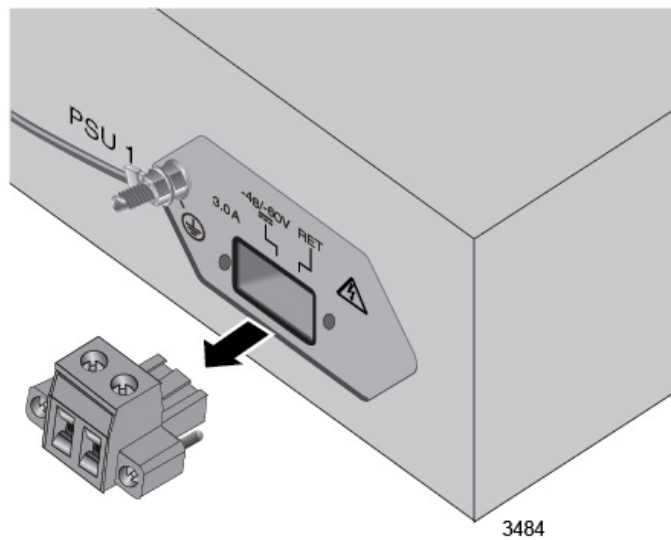

Figure 39. Removing the DC Connector
3. Slide the DC connector from the chassis. Refer to Figure 39.